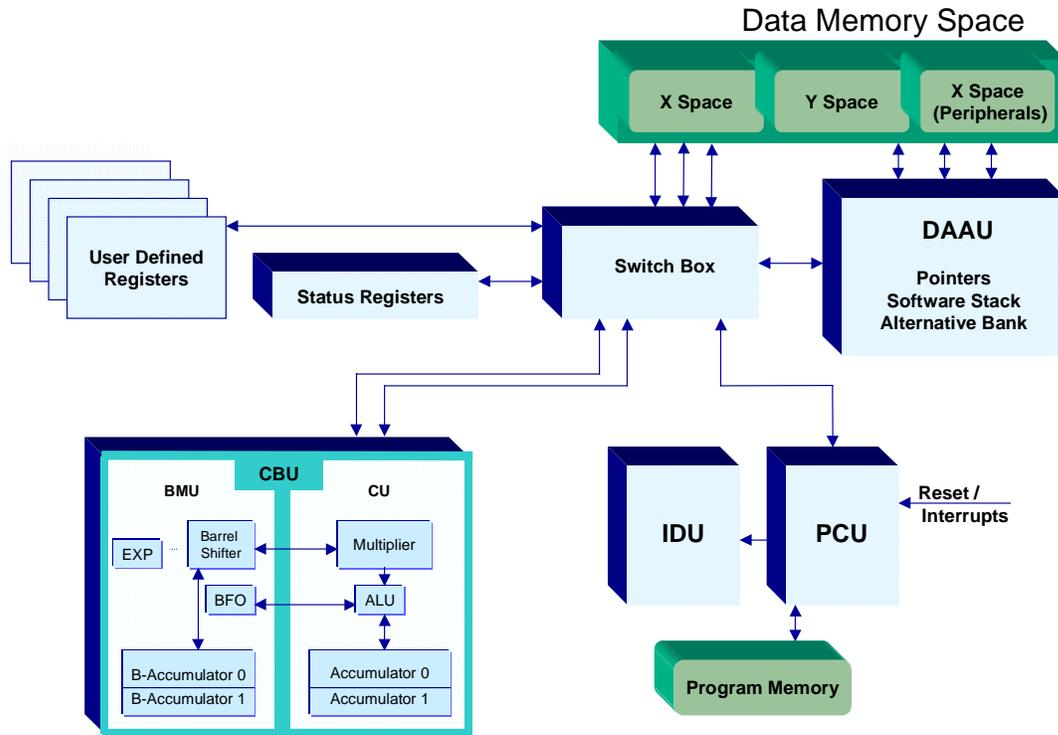
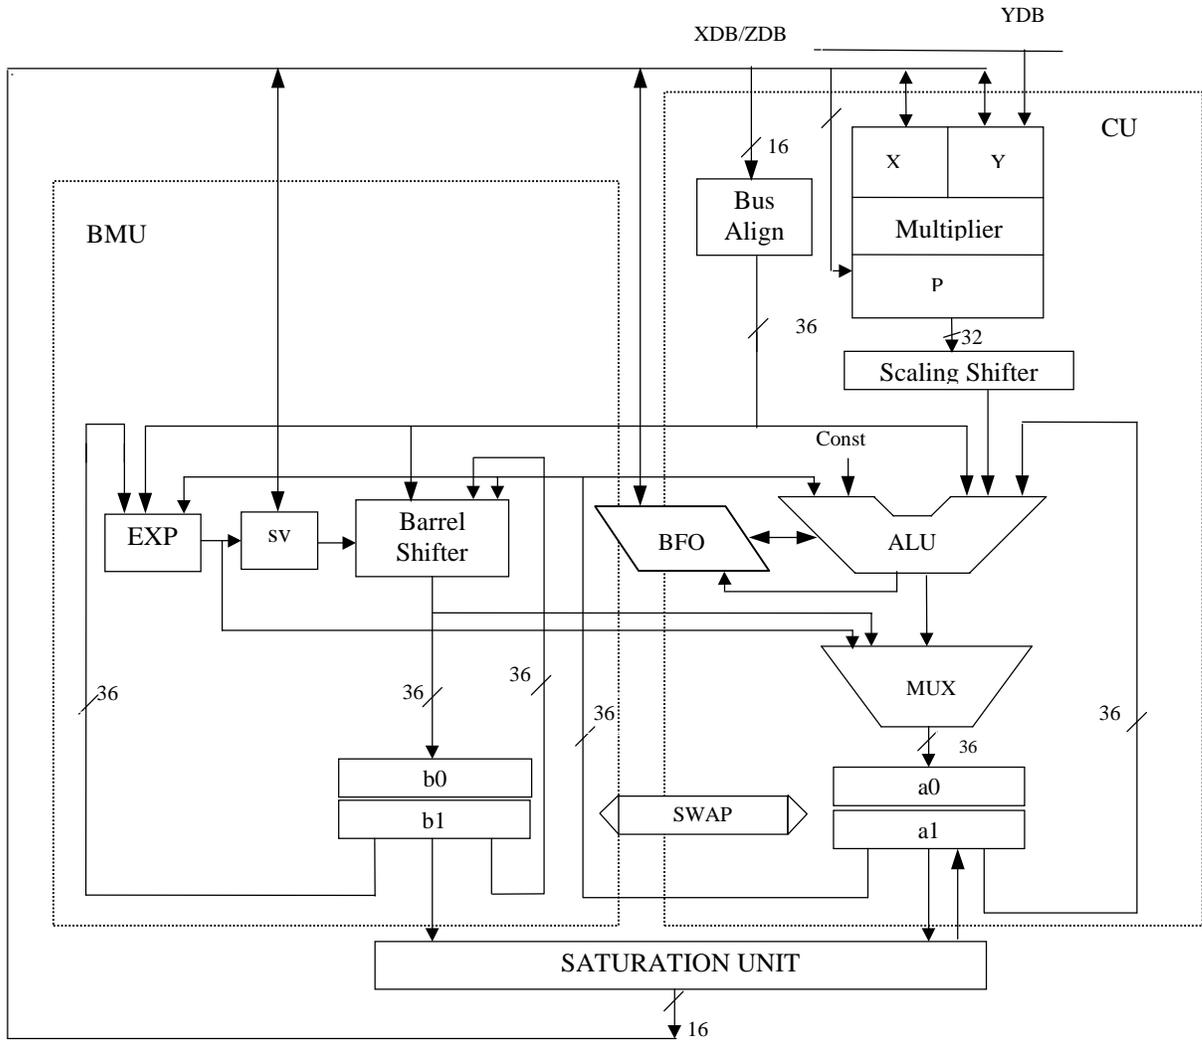

Figure 3.1 TeakLite - Block Diagram
Figure 3.2 Computation and Bit-manipulation Unit Block Diagram
A high-level block diagram of the TeakLite architecture is shown in Figure 3.1. Block diagrams of the Computation and Bit-manipulation Unit and of the Data Address Arithmetic Unit, are shown in Figures 3.2 and 3.3, respectively.
The Computation and Bit-manipulation Unit (CBU) contains two main units, the Computation Unit (CU) and the Bit-Manipulation Unit (BMU). Another unit is the saturation unit, which is shared by the CU and the BMU units. A detailed block diagram of the Computation and Bit-manipulation Unit is shown in Figure 3.2.
The Computation Unit (CU) consists of the Multiplier units, the ALU, and two 36-bit accumulator registers (a0 and a1), as shown in Figure 3.2.
The Bit-Manipulation Unit (BMU) consists of a full 36-bit Barrel Shifter, an EXPonent unit (EXP), a Bit-Field Operation unit (BFO), two 36-bit accumulator registers (b0 and b1), and a Shift Value (SV) register (see Figure 3.2)